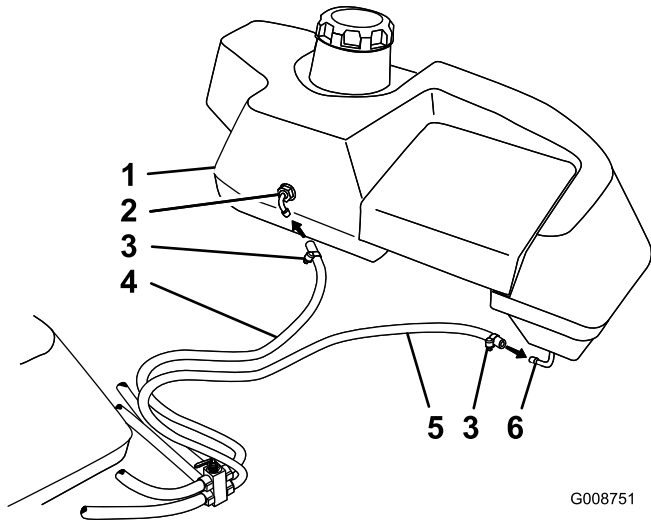

Figure 10
8. Install the longer fuel hose to the front left hand fuel tank connection. See Figure 10. for the correct hoses.
- Install the short hose to the back left hand fuel tank connection (Figure 10).